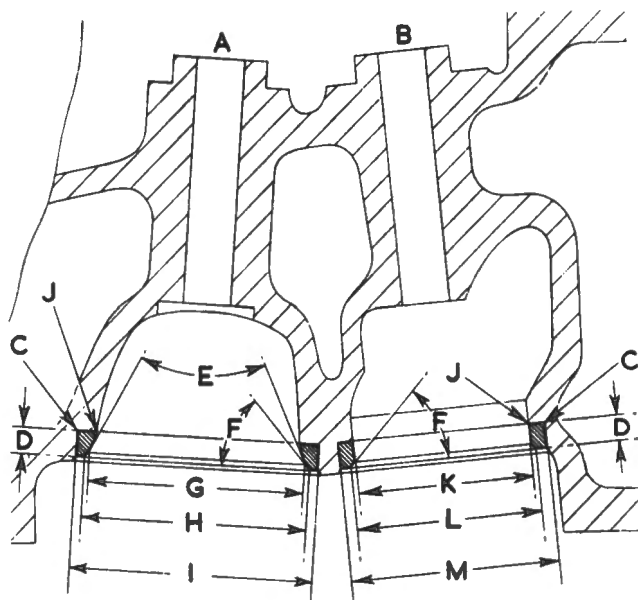

Fig. E-34
- 1 Machine the head to the dimension given in Fig. E-34.